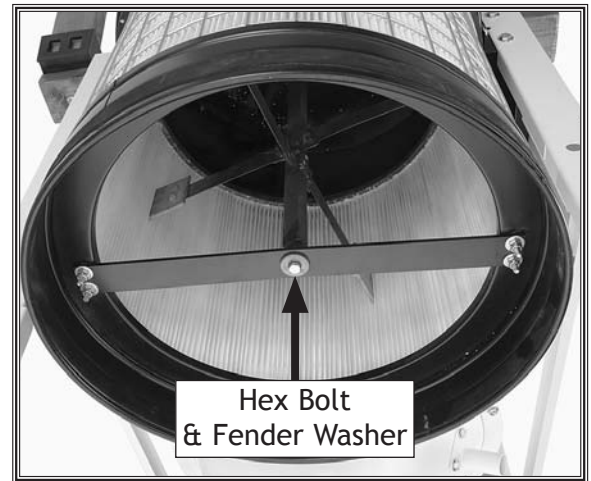

Figure 52. Hex bolt and fender washer that secure the canister filter.
3. With the help of another person to support the canister filter, remove the hex bolt and fender washer from the center shaft shown in **Figure 52**.